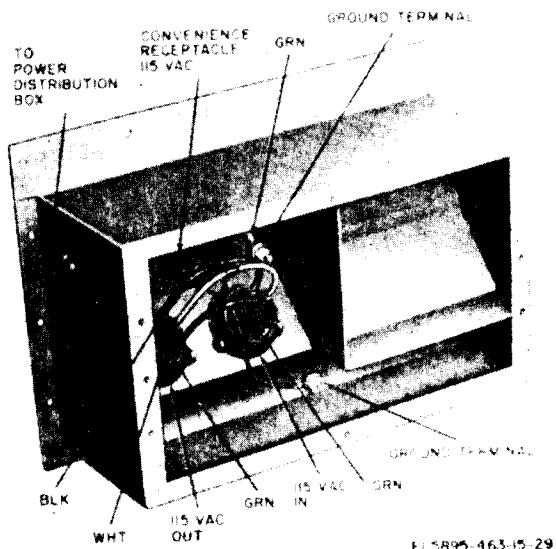
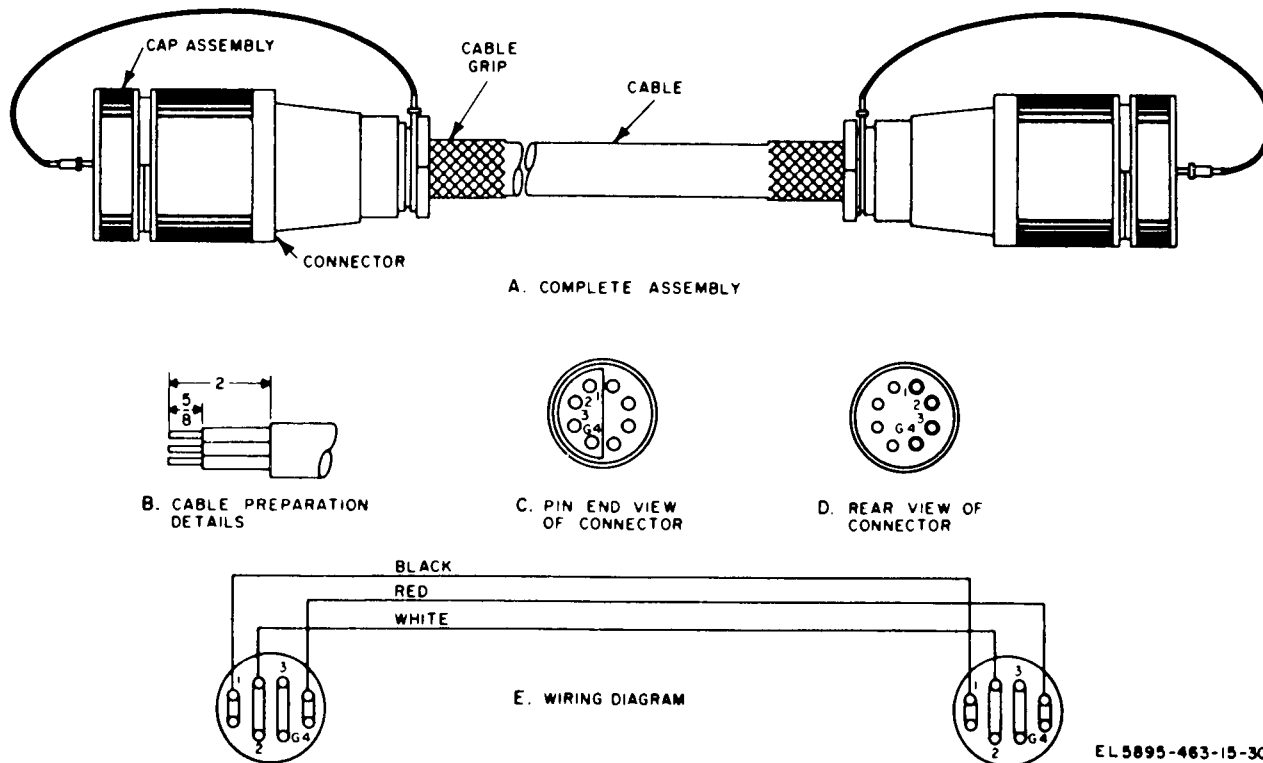

Figure 4-11. Power entrance box, rear view.
Figure 4-12. Power cable repair details.
(2) Remove the interior cover of the power entrance box, disconnect the wires from the appropriate receptacle, and remove the receptacle (fig. 4-11).
(3) Install the replacement receptacle, connect the wires to the proper terminals of the receptacle, and replace the cover on the power entrance box.
b. Power Cable Connectors. Refer to figures 4-12 and 4-13 for details of construction necessary for disassembly and removal.